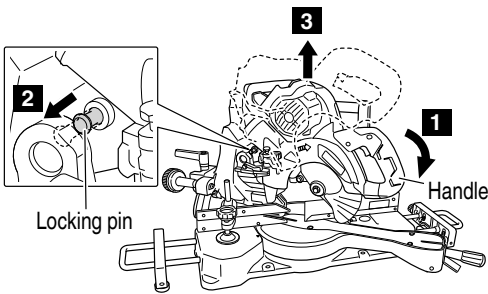

Fig. 7
4. Releasing the locking pin (Fig. 7)